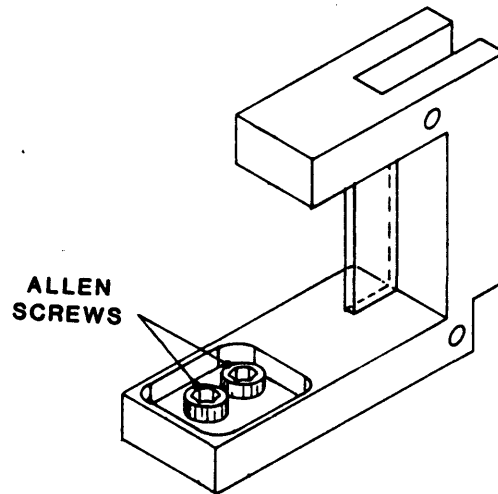

Figure 4-24 Tape Cleaner Assembly
4.3.27 TAPE CLEANER ASSEMBLY (Figure 4-24)